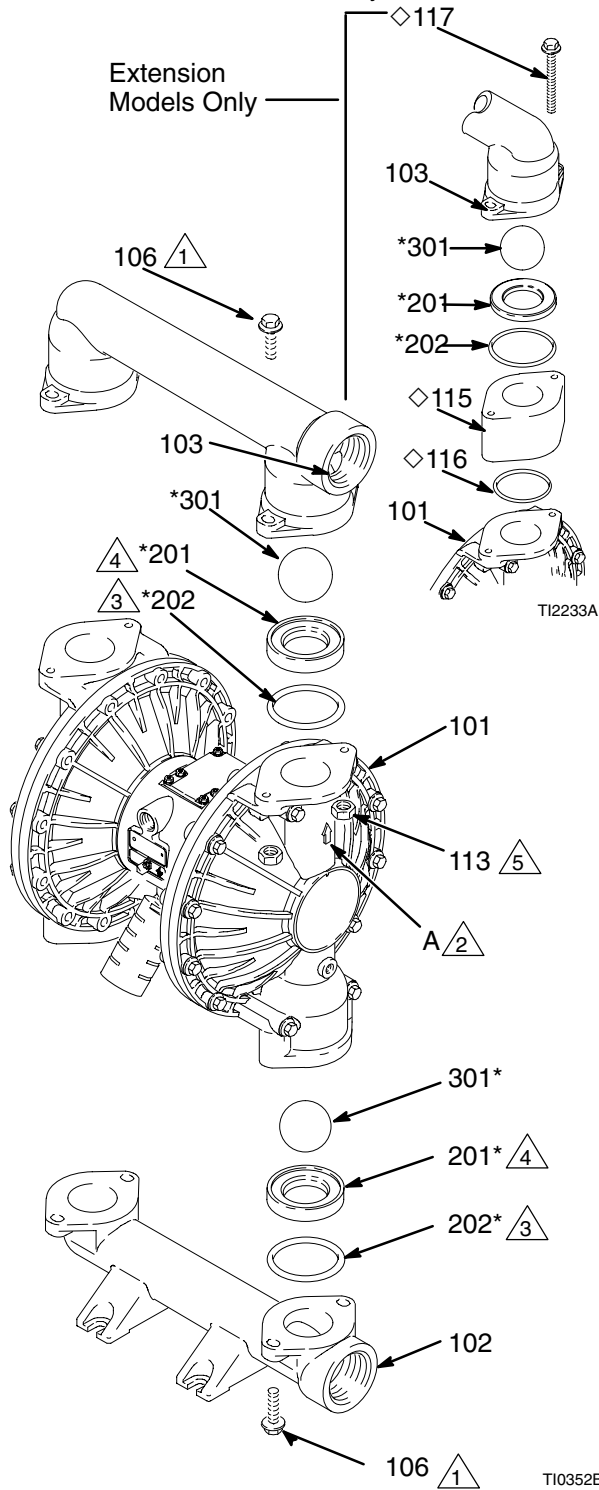

Fig. 10
**NOTE:** To ensure proper seating of the balls (301), always replace the seats (201) when replacing the balls.
**NOTE:** (Extension Version) To ensure proper sealing of extension (115), always replace o-rings (116) when replacing the balls.
3. Using a 10 mm socket wrench, remove the four bolts (106) holding the outlet manifold (103) to the fluid covers (101). See Fig. 10.
4. Remove the seats (201), balls (301), and o-rings (202) from the manifold.
**NOTE:** Some models do not use o-rings (202).
5. Turn the pump over and remove the inlet manifold (102). Remove the seats (201), balls (301), and o-rings (202) from the fluid covers (101).
2. Reassemble in the reverse order, following all notes in Fig. 10. Be sure the ball checks are assembled **exactly** as shown. The arrows (A) on the fluid covers (101) **must** point toward the outlet manifold (103).
- 2 Arrow (A) must point toward outlet manifold (103).
- 4 Beveled seating surface must face ball (301).